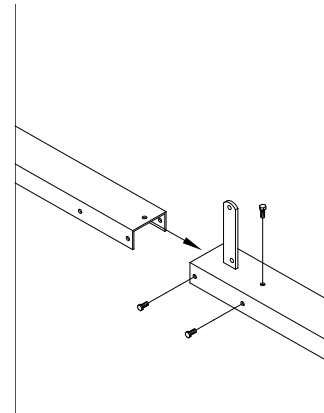

Fig. 3
6. Next, bolt tongue front (4) to tongue rear (3) with 3/8" x 3/4" HHC and whizlock nuts (5 included).
7. Bolt draw plate (27) to tongue front (4) with 3/8" x 3/4" HHC screws and whizlock nuts (2 included) **Fig. 3**